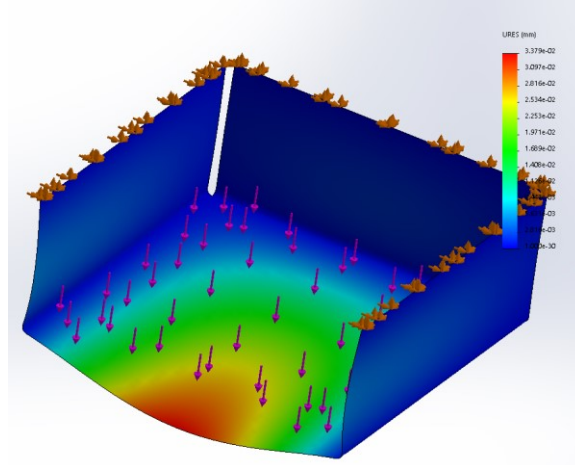

Figure 11
- When the study is done running double-click on Displacement1 (-Res disp-). From here you can see the max displacement of the part. In Figure 11, this value is  $3.379e-02$  mm.
- Take a screenshot of the model similar to that of Figure 11 and include it in your HW10 submission with a brief caption.